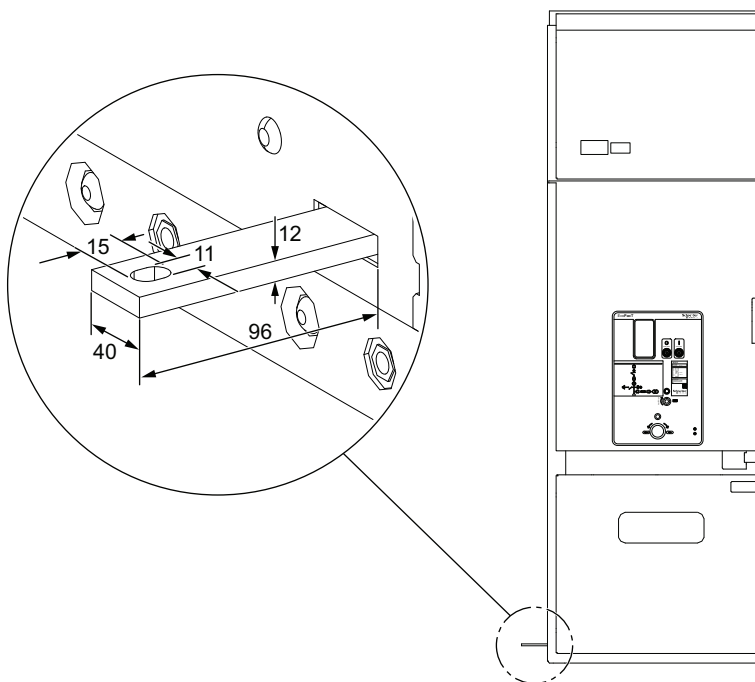

Figure 26
1. Slip the connecting bar into the adjacent cubicles supporting structure through the cut out in the cubicle (Figure 26).